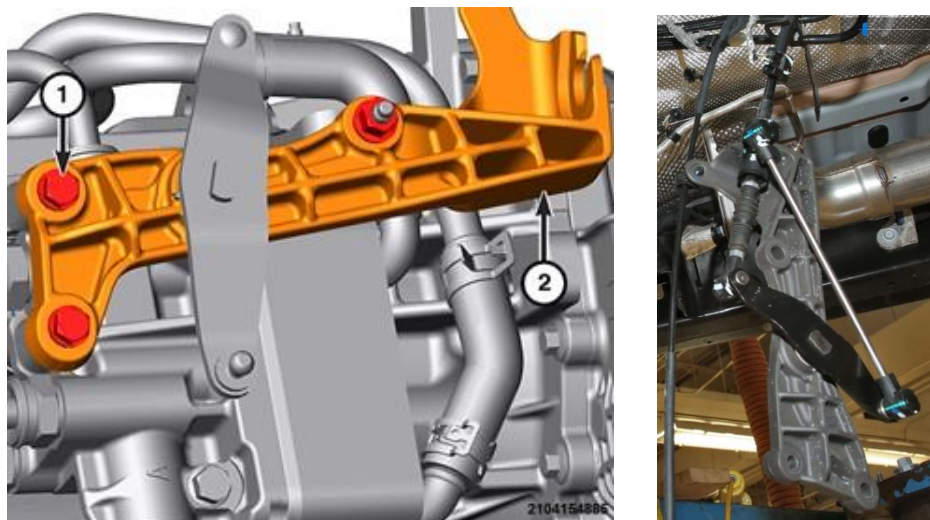

Figure 21 – Transfer Case Shift Bracket
25. Remove the two bolts (1) and one nut securing the transfer case shift bracket (2) to the transmission then remove the shift bracket (2) from the transmission leaving cable and shift rod attached (Figure 21).